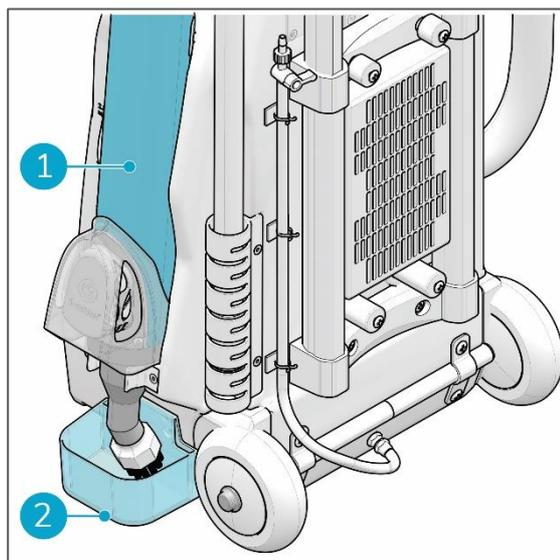

Figure 27
2. Attach the drip tray (Figure 27, pos 2) to the machine.
3. Put the lance (Figure 27, pos 1) in the holder.